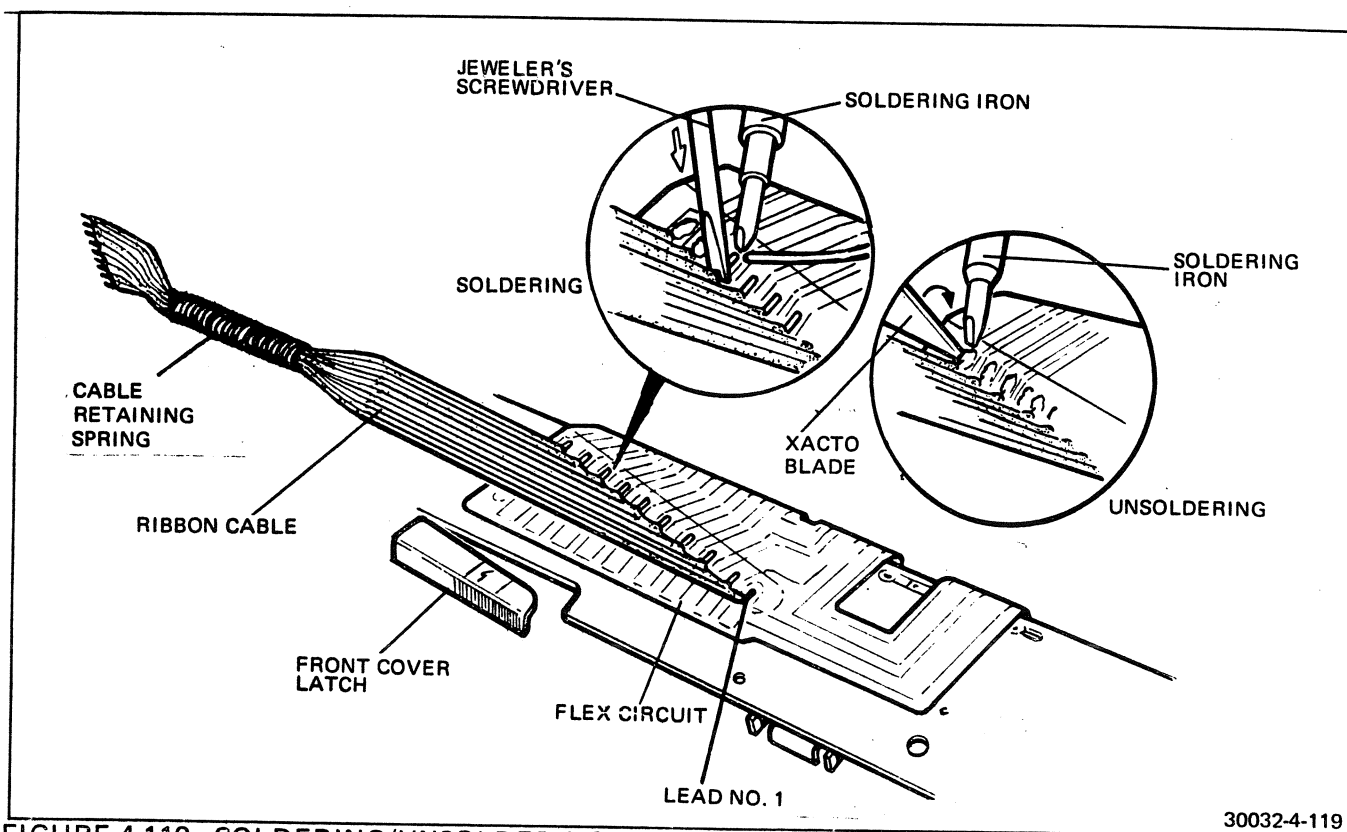

FIGURE 4-119 SOLDERING/UNSOLDERING RIBBON CABLE
- a. Starting with lead no. 1 of the cable, insert the point of a sharp blade (a pointed blade Xacto knife is recommended) under the wire. The sharpened edge of the blade must be held so that it makes physical contact at the junction point of the wire lead and the solder pad of the flex circuit. Do not insert the point of the blade beyond lead no. 1. See Figure 4-119.
11. Refer to Figure 4-119. Place the blade of a jeweler's screwdriver on top of the bare end of the number 1 lead exactly at the point where the insulation begins. Press down firmly to create a positive heat sink.